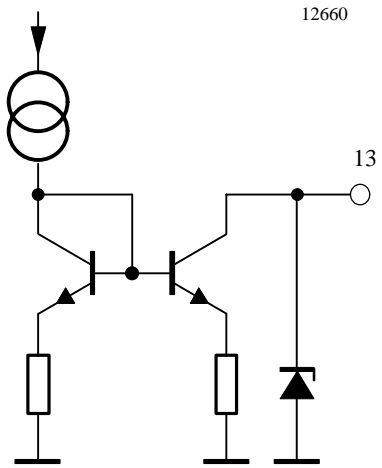

Figure 13. Pin 13 SWout
- 1) Measured at Pin 9, (12) referred to 330  $\Omega$
- 2) Protected by a Z-diode, see figure 13